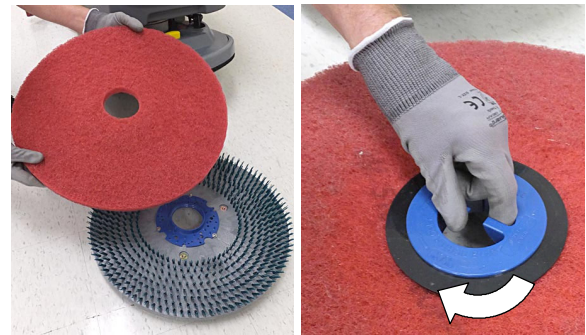

FIG. 15
2. Attach the pad to the pad driver before installing the driver (Figure 15). Secure pad with centerlock.